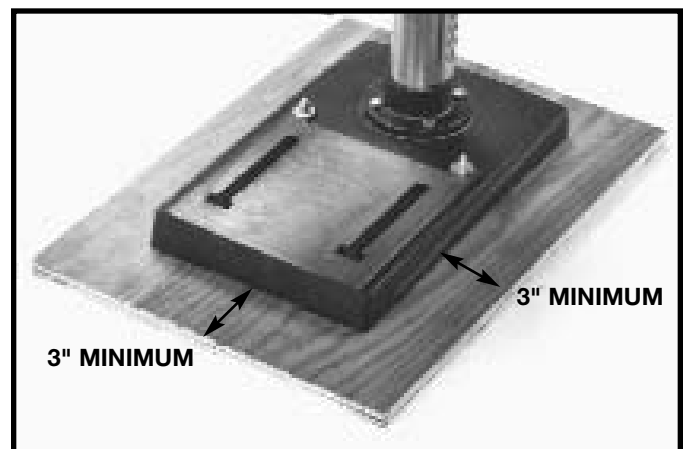

Fig. 12
3. When the drill press is mounted to the supporting board, the board must extend a minimum of 3" beyond each edge of the drill press base, as shown in Fig. 12.